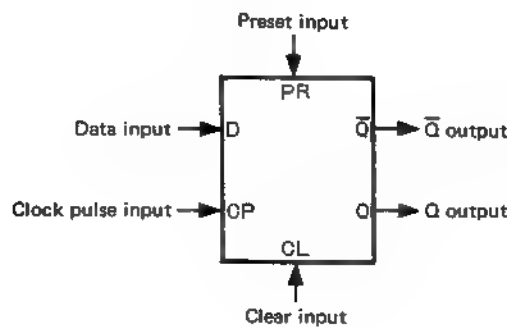

Fig. 14
Each IC is CMOS TC4013BP which is composed of the D-type flip-flop with two independent circuits as shown in Fig. 14. The level of the input applied to the data (D) input is transmitted to the Q and  $\bar{Q}$  outputs at the rise time of the clock pulse (CP).